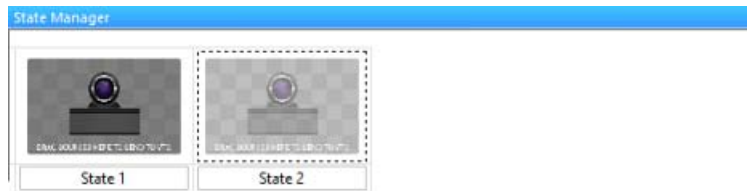

FIG. 15 State Manager window indicating five states
- The two states are indicated in the State Manager window (FIG. 15):